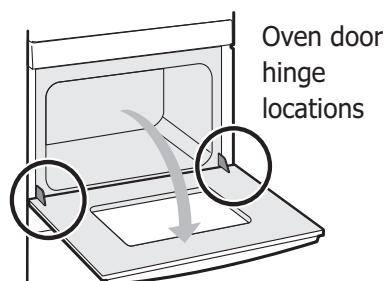

Figure 44: Door hinge location
1. Open oven door completely, horizontal with floor (See Figure 44).
3. Fully open the oven door, horizontal with floor (See Figure 44).